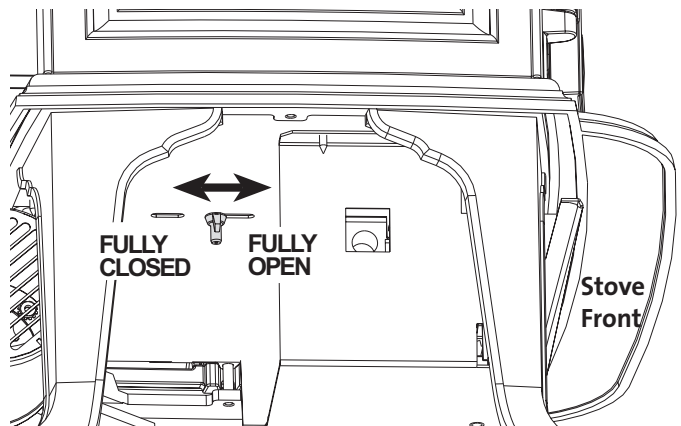

Figure 23. Locate and loosen the Air Shutter wingnut under the stove.
6. Reach under the stove and loosen the Air Shutter wingnut. Push the shutter stem back to ease burner removal. See fig. 23.
- Adjust the Air Shutter.** You will need to position the shutter to provide a gas/air mixture that will achieve the best flame picture with your particular installation. Start with the shutter stem at the half-way position in the slot in the bottom of the stove. See fig. 23. Pushing the stem back will restrict air, while pushing it forward will open the shutter and increase air. With some experimentation, you will find the shutter position that works best for your installation.